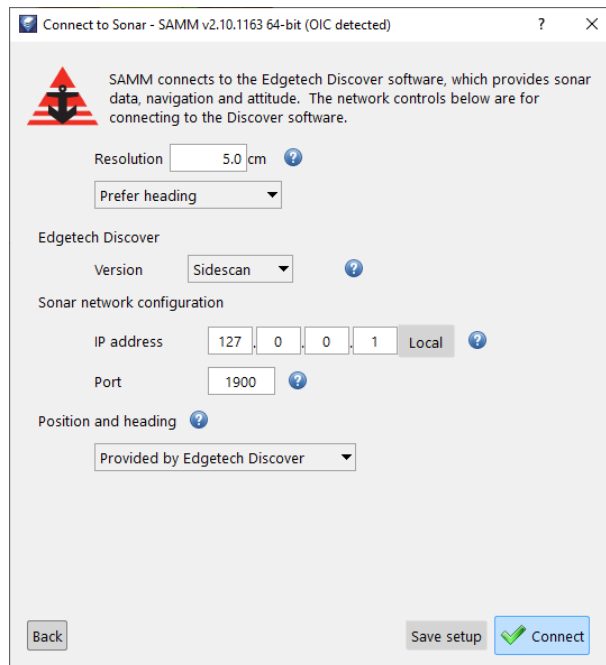

Figure 51. EdgeTech Interfacing
7. In the EdgeTech interface window (Figure 51), set processing parameters as necessary.